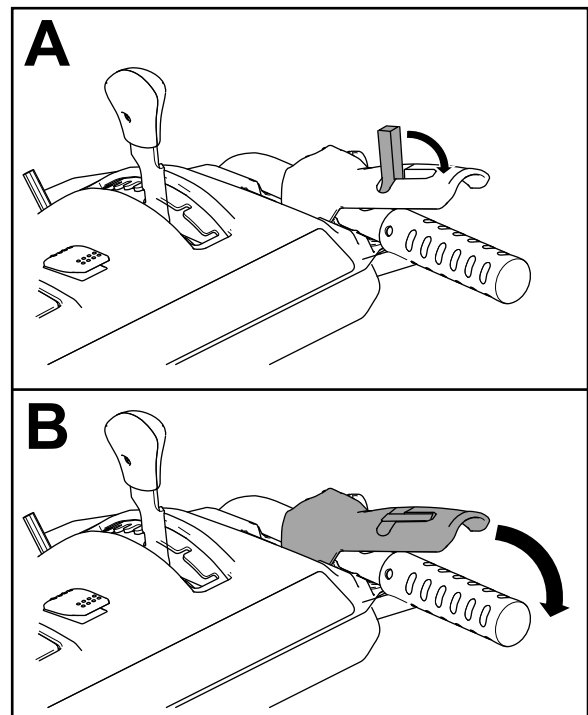

Figure 22
1. To engage the auger/impeller drive, move back the lock switch on the lever, then squeeze the right (auger/impeller) lever to the handgrip (Figure 22).